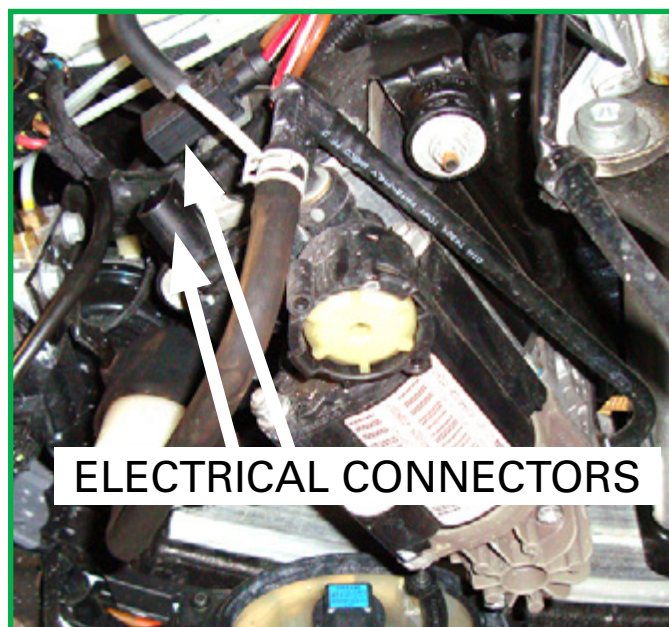

FIGURE 3
3. Disconnect the two (2) electrical connectors from the compressor unit. (Figure 3)